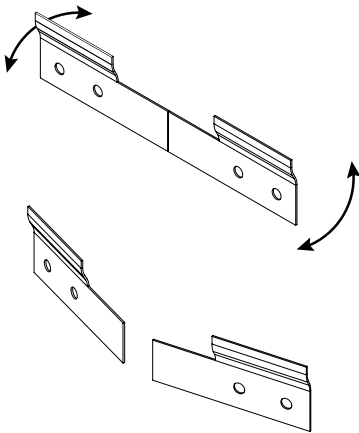

Fig. 5 - Wall Hanger Bracket
5. Separate the two halves of the hanging bracket (*Fig. 5*). Drill holes for wall brackets and fix into position with suitable fixings.